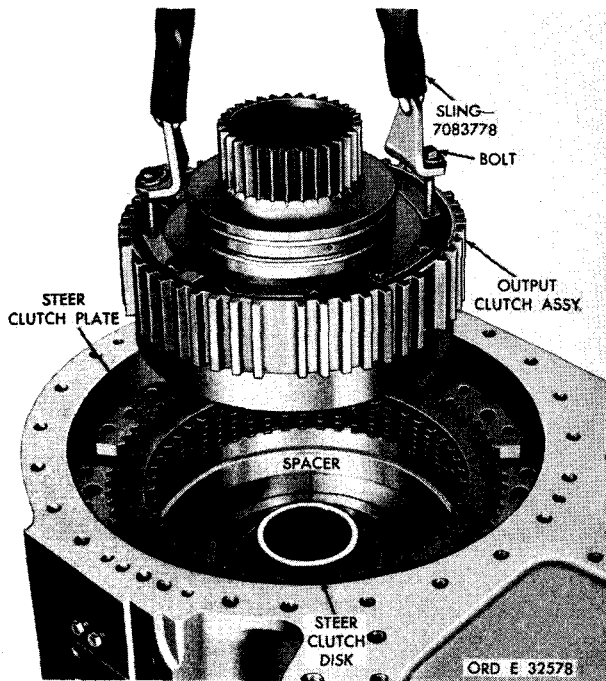

Figure 159. Removing (or installing) output clutch assembly
h. Using sling 7083778 and two 5/16-24 bolts, remove the output clutch assembly (fig. 159).
i. Remove steer clutch plates and disks (fig. 159).
j. Remove spacer (fig. 159).